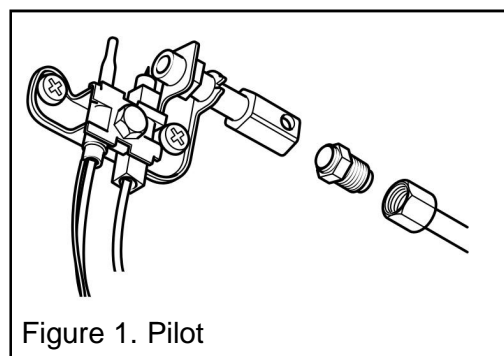

Figure 1. Pilot
**Pilot injector.** See figure 1.